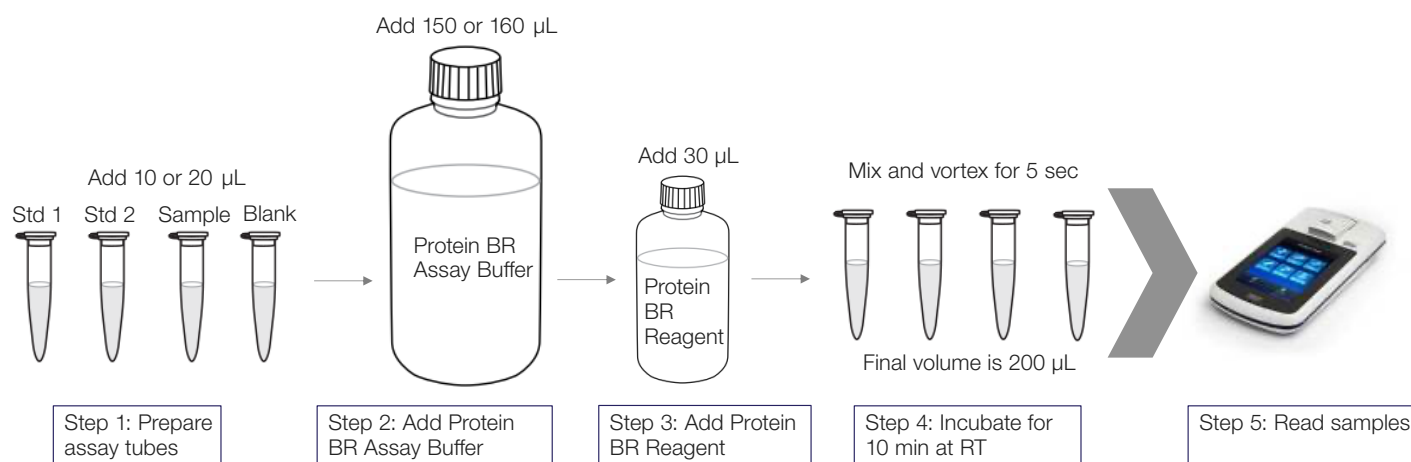

Figure 1. Qubit Protein BR Assay protocol.
The assay is easy to perform and only requires a 10 minute incubation at room temperature (RT), eliminating the need to wait for long incubation periods or expose samples to elevated temperatures. The assay protocol, seen in Figure 1, is easy to set up with just two standards to prepare, unlike traditional assays that typically require a 7-point standard curve for quantitation.